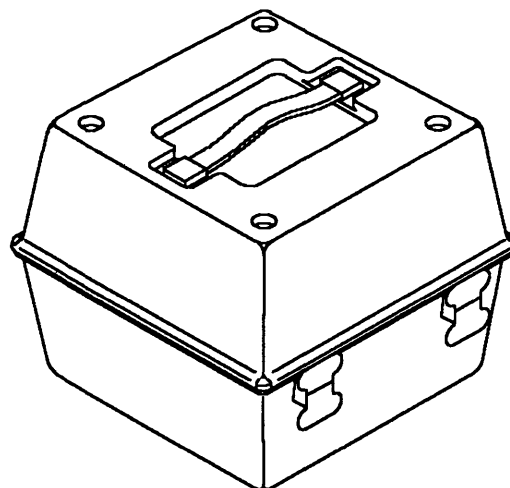

Figure 5-100. TCM Container
13. Using the ESD mat, place the TCM in a safe place until you can put it in the shipping container, as shown Figure 5-100.